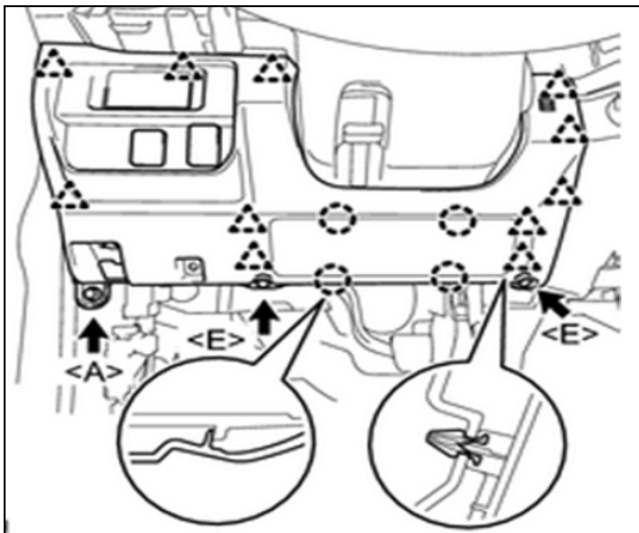

Figure 23
24. Connect the connectors. Engage the 4 claws and 11 clips to install the instrument panel lower finish panel sub-assembly. Install the 2 screws <E>. Install the bolt<A>. See Figure 23.